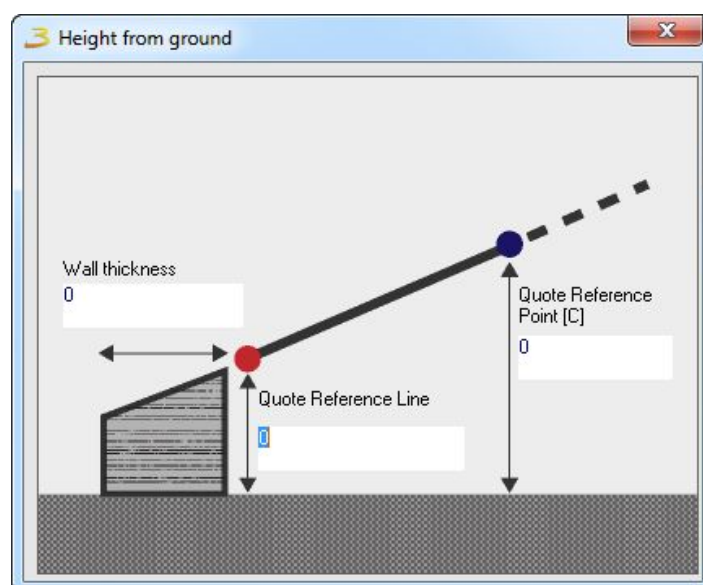

Figure 6.6: Setting the ramp height.
A notice will appear at the end of this operation, requesting to select a point for the dimension (height) and then a window as shown in figure 6.6 is displayed, where to specify the parameters to make the slope.
- ✓ First of all to create a sloping ceiling it is required to set the walls at the maximum required height (carry out a multiple selection with the SHIFT button + mouse click and press F1 to enter into the rule and modify the wall height parameter) then, after selecting the sloping wall icon, the ceiling vertexes are inserted, bearing in mind, that each couple of vertexes will have a different height. Once the ceiling area has been defined this message will appear "*Select a point to set dimensions*". At this point the height of the blue vertexes defining the red reference line and of the two pink opposite vertexes are required. It is necessary to left click on one of the pink dots in order to open the dialog window from which to insert the heights of the vertexes (see Figure 6.6)
The *Height from ground* (fig. 6.6) window will only appear if one of the pink dots are selected, any other selection will void the possibility to change the height of the vertexes. At any time it is possible to repeat this operation by simply selecting the ceiling and pressing the mouse right button and select the menu entry "Set height...".